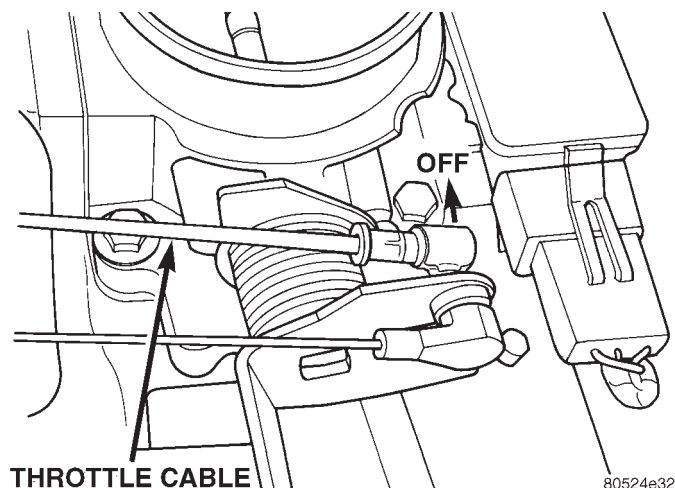
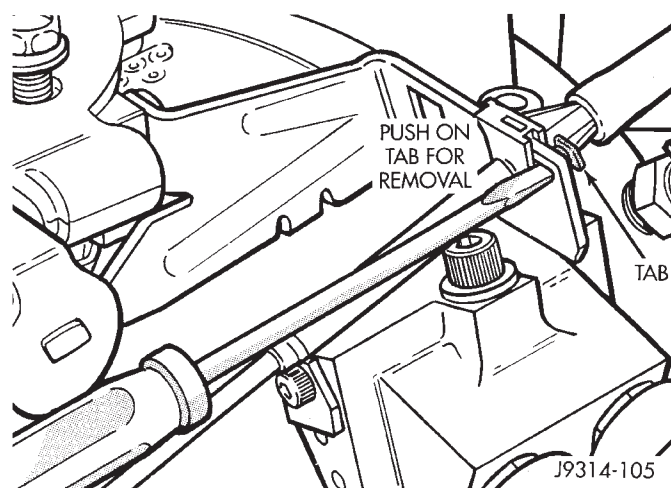
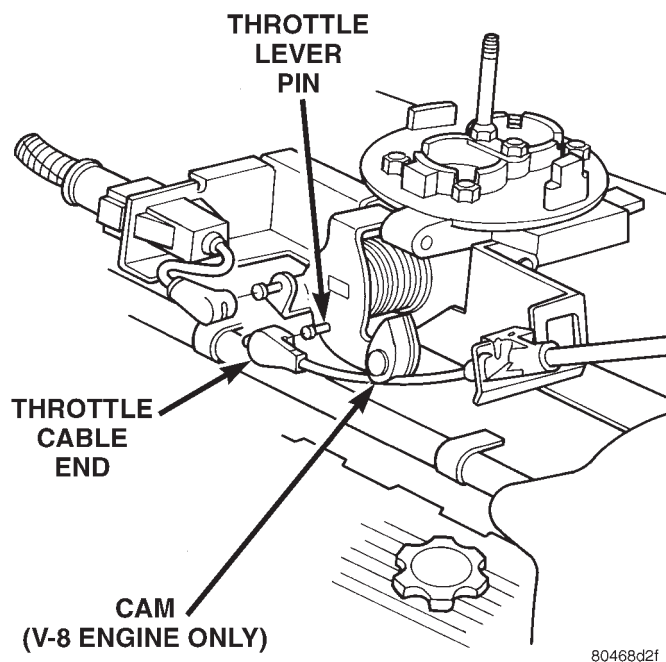

Fig. 42 Throttle Cable at Throttle Body—4.0LEngine
Fig. 44 Cable Release Tab—5.2L/5.9LEngines—Typical
Fig. 43 Throttle Cable at Throttle Body—5.2L/5.9LV-8 Engines
(5) Remove the throttle cable ball end socket at throttle body linkage (Fig. 42) or (Fig. 43) (snaps off).
(6) 4.0L Engine: Remove throttle cable from throttle body mounting bracket by compressing retainer tabs and pushing cable through hole in bracket. Remove throttle cable from vehicle.
(7) 5.2L/5.9L Engines: Remove cable housing at throttle body mounting bracket by pressing forward on release tab with a small screwdriver (Fig. 44). **To**